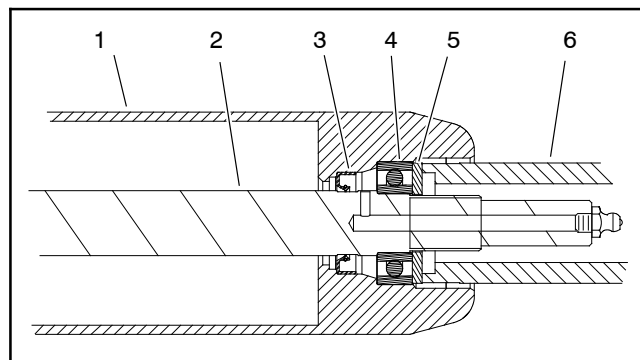

Figure 52
B. Use washer and bearing/outer seal tool (see Special Tools in this chapter) with a soft face hammer to fully seat bearing (Fig. 52). After bearing installation, make sure that shaft freely rotates and that no binding is detected. If necessary, lightly tap bearing and/or shaft ends to align shaft and bearings. Remove washer from roller.